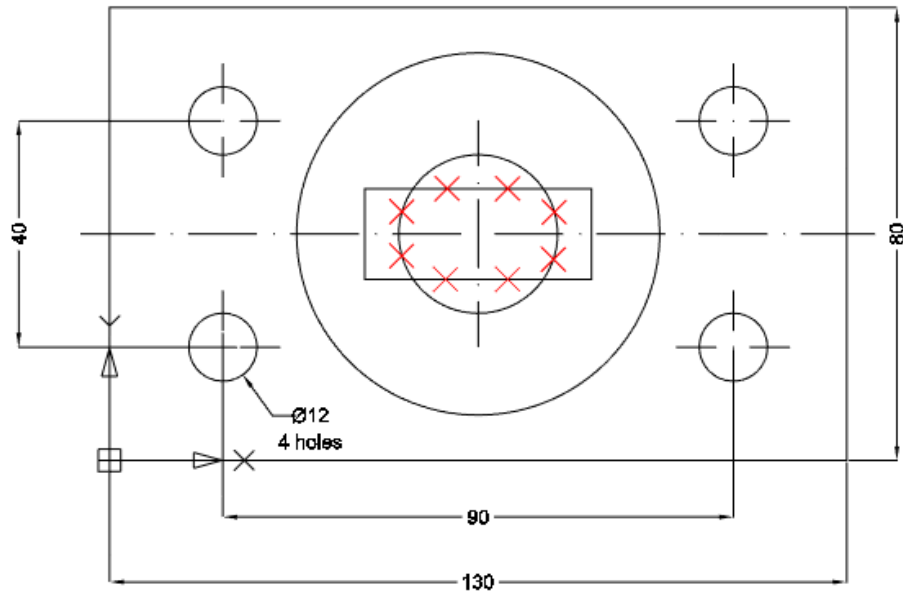

Fig. 9. Use the **Smart Trim** command
1.9. Use the **Smart Trim** command to remove unnecessary lines (fig. 9 and 10):